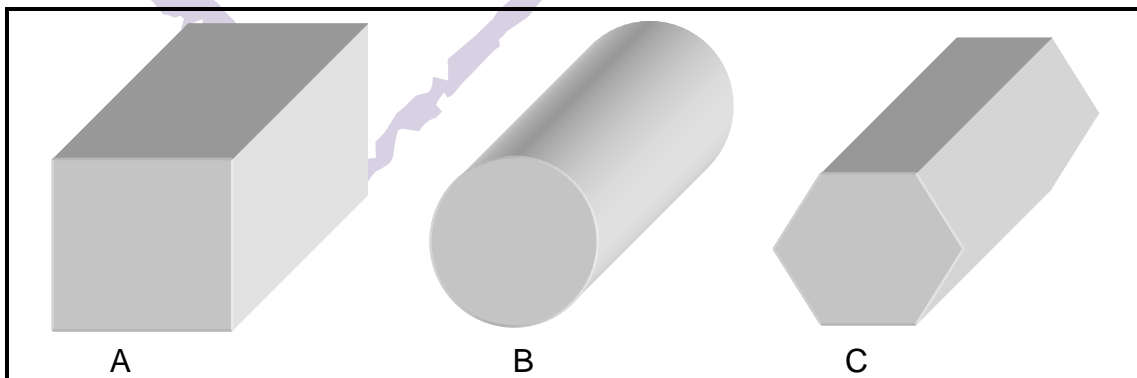

FIGURE 1
- 2.3 FIGURE 1 shows different types of steel profiles that are used during rigging. Name the profile of each bar by writing only the answer next to the letter (A–C) in the ANSWER BOOK.